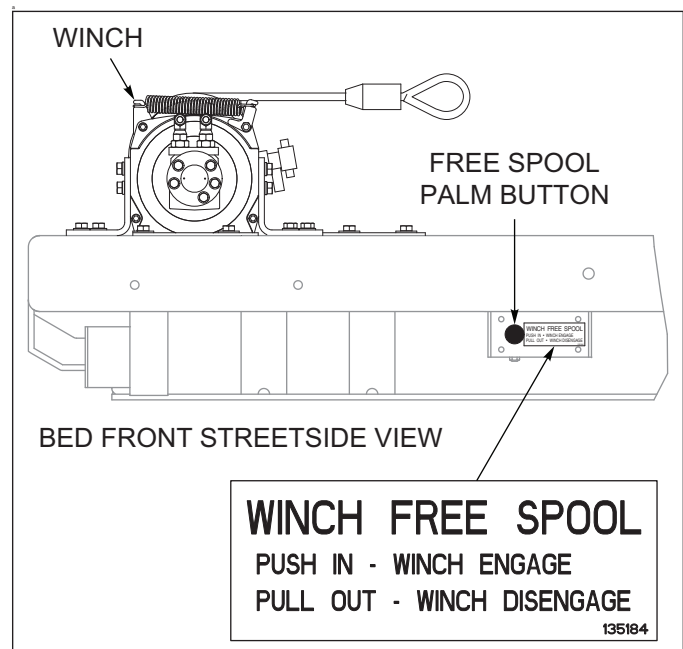

Figure 4-1: Free Spool Palm Button
2. The Air Free Spool Clutch is operated by a Palm Button Valve that supplies/releases air pressure to/from the winch gearbox housing. It requires 50-120 psi (245-827 Kpa) of air pressure to disengage the free spool clutch. The Winch Free Spool Palm Button is located on the front streetside of the bed near the winch, See Figure 4-1.